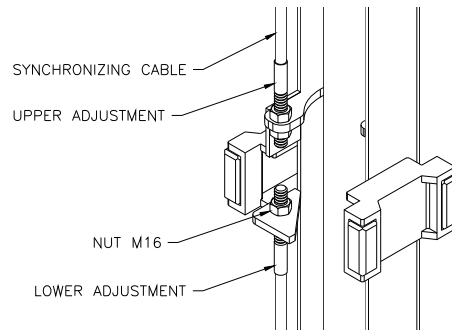

Fig 3 – Synchronizing Cables
- 16) Attach one end of synchronizing cable to carriage. See **Fig 3** for proper attachment.